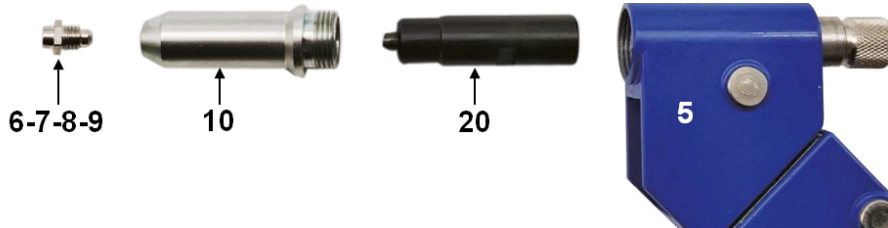

Fig. 1
1. Assemble the tool as shown in figure 1. Make sure that the correct nose-piece is selected for the rivet being used.